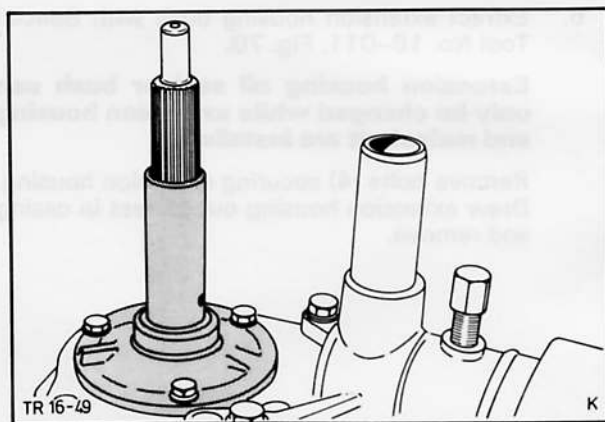

Fig. 73. Remove main drive gear bearing retainer
9. Remove main drive gear bearing retainer (3 bolts), Fig. 73. Then pull out input shaft.